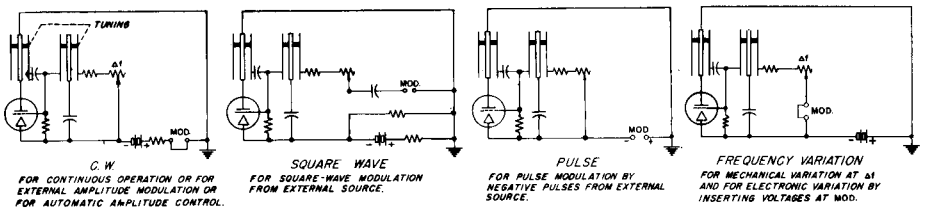
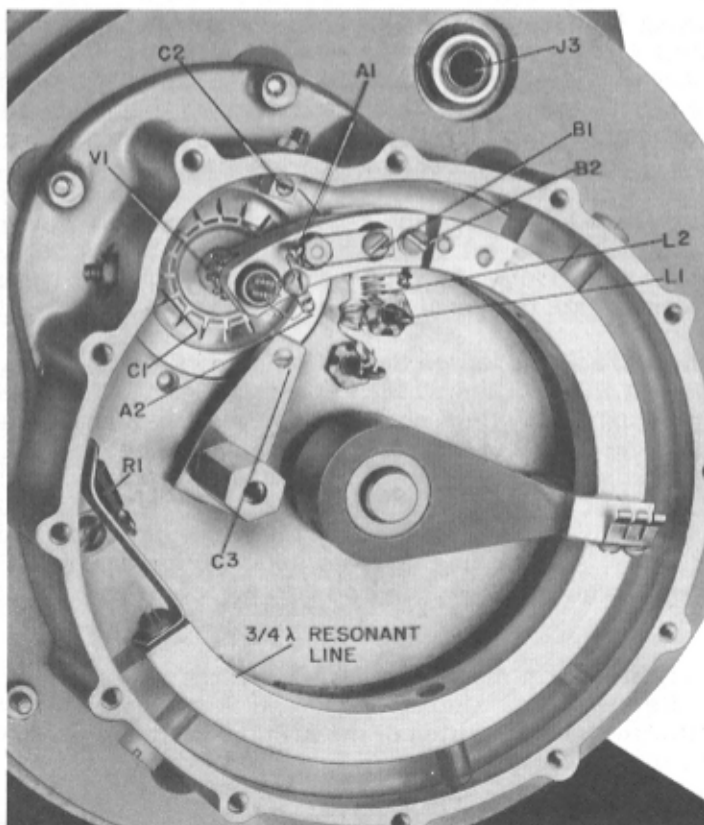

Figure 3. Elementary Wiring Diagram for Various Modulation Conditions.
Figure 8. Right-Hand End of Oscillator, Cover Removed.
**2.4 MODULATION.** A three-position switch on the front panel selects the desired operation, and allows the application of external control or modulating voltages at a telephone jack. Schematic diagrams corresponding to the switch positions are shown in Figure 3.
2.6 SQUARE-WAVE MODULATION. Amplitude modulation, obtained by ac voltages superimposed on the dc plate voltage of the oscillator tube, introduces undesirable frequency modulation, which increases rapidly with carrier frequency. Square-wave modulation that turns the oscillator on and off eliminates this difficulty. Ordinarily considerable square-wave power is required to turn the oscillator off completely or to give large output if the dc plate voltage is eliminated. To obtain satisfactory operation with low power, the circuit is changed with the selector switch in the SQUARE WAVE position, as shown in Figure 3. The large resistor, R6, in the grid circuit is no longer bypassed by R2 and R3 and makes the oscillator unstable so that it can be modulated with relatively low power. Good square-wave modulation from about 100 to 5000 cps can be obtained, with square-wave input as shown in Figure 4. Figure 5 shows the output produced if sine waves are applied with the selector switch in the SQUARE WAVE position. In square-wave modulation, plate current flows only half the time, and the voltage drop in the large plate circuit series resistor is reduced. To prevent a rise of voltage at the oscillator tube, a shunt resistor (R9) is added when the selector switch is in the SQUARE WAVE position.
**2.8 FREQUENCY INCREMENTS.** Small frequency variations, of the order of 20 kc to 100 kc, can be obtained as the resistance in the grid circuit is varied mechanically. The 1000-ohm resistor ( $\Delta f$ ) at the top of the main casting is provided for this purpose. In series with this variable resistor is a fixed resistor of 2000 ohms and a telephone jack that is normally closed. (See Figure 3.) An increase in the grid circuit resistance beyond 3000 ohms tends to make the oscillator unstable, but bias voltages with low internal impedance can be introduced at the telephone jack to change the frequency by about 0.1 percent. Since the entire grid circuit is below ground potential, the grounded modulator jack on the front panel cannot be used for this purpose, and a second jack has been provided. (See J3, Figure 8.) The circuit can be used for electronic frequency control in a closed-loop system as well as for frequency modulation and for sweeping. Sweeping with the saw-tooth output of an oscilloscope can be used for panoramic presentation.
**4.1 PLATE CIRCUIT MODULATION.** For unmodulated output, automatic output control, or amplitude modulation, place the MOD. switch in the CW position. As shown in Figure 3, the plate circuit can be opened by means of a phone plug at the MOD. jack on the front panel. This permits the insertion of control voltage or a variable control resistance. One side of the jack is ground. A voltage that is positive with respect to ground reduces the output.
**5.2.3 REMOVAL OF OSCILLATOR TUBE.** (See Figure 8.) The Type 5675 Oscillator Tube used in the Type 1218-A Unit Oscillator has no socket. The two heater leads are connected to the heater terminals (A1, A2) by small, bare wires, which are soldered to the heater terminals and wound around the heater leads. To remove the tube, unsolder the leads from the terminals and unwind them from the heater leads. Lift out the short extension of the cathode line at the tube end after removing two small screws (B1, B2). Loosen screws (C1, C2, and C3) and remove the pressure ring that holds the two tube clamp rings. When installing a tube, insert the first tube clamp ring with the fingers bent up, plug the tube into the end of the plate line and insert the second tube clamp ring with the fingers bent down. After installing the pressure ring and the end section of the cathode line, solder new wires to terminals (A1, A2) and wrap carefully around the cathode leads of the tube. (No. 30 bare copper wires are supplied for this purpose.)